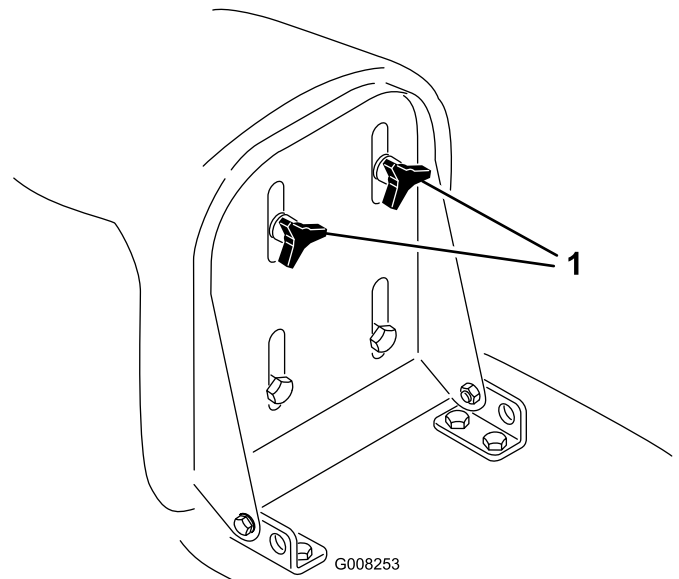

Figure 5
1. Raise the seat and loosen the adjustment knobs (Figure 5).